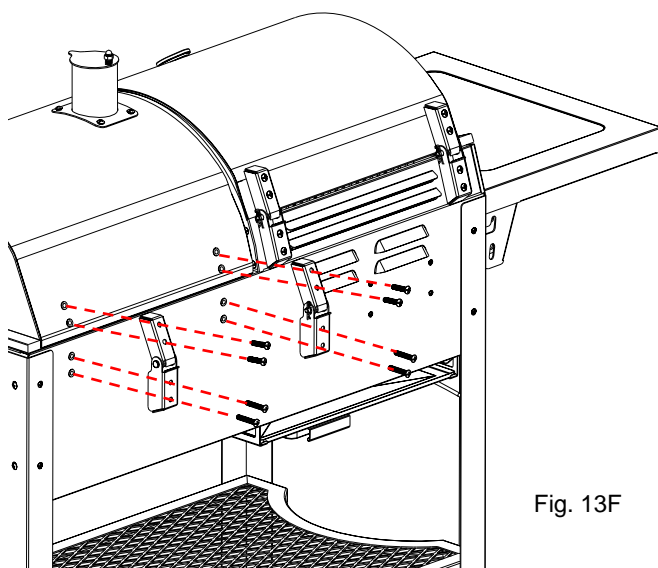

Fig. 13F
Refer to Fig. 13F, attach Charcoal Grill Cabinet and Lid with Hinge Assemblies using (8) M6*35 Bolts as shown.